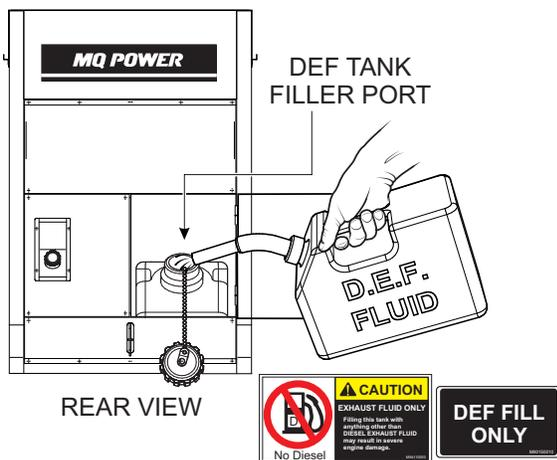

Figure 33. Filling The DEF Tank
2. Remove the cap from the DEF tank filler port (Figure 33).